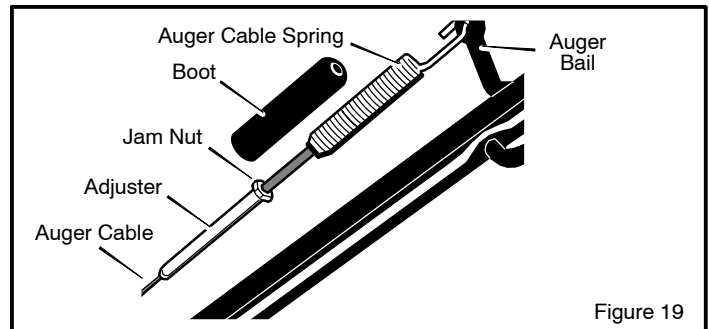

Figure 19
1. Remove the end of the **auger cable spring** from the **auger bail** (see Figure 19).
4. Loosen the **jam nut** (see Figure 19).